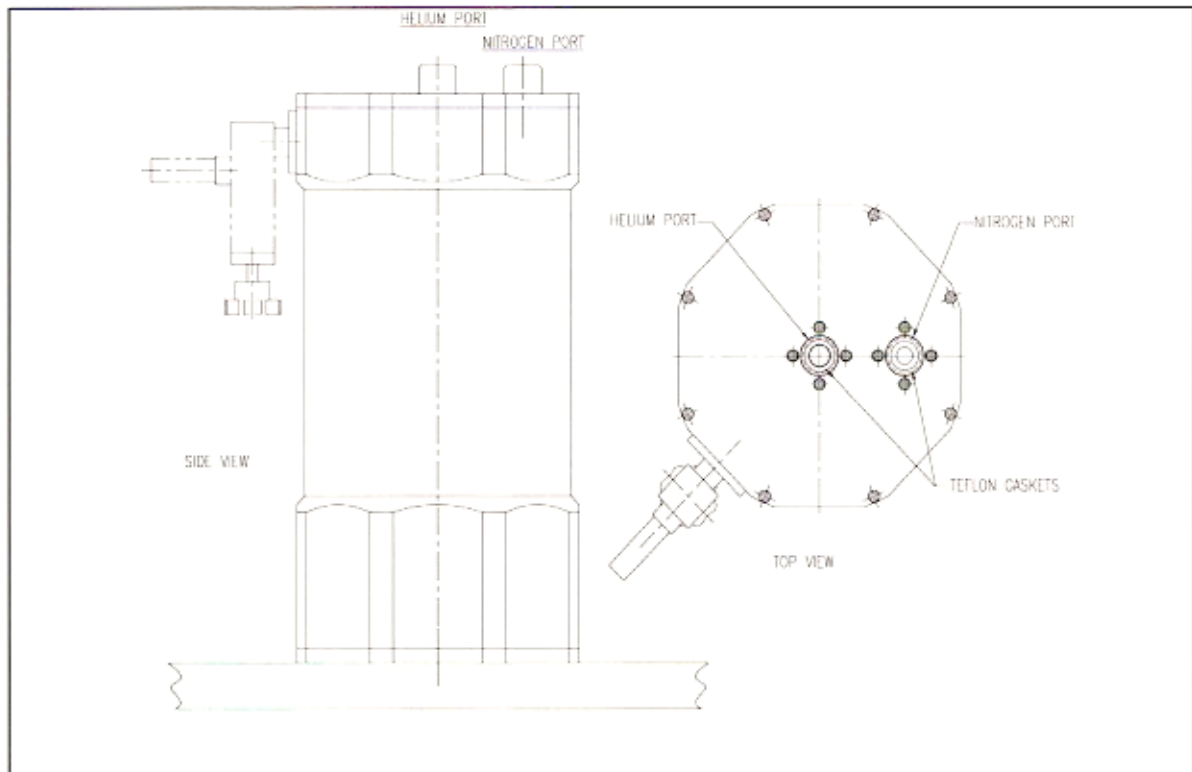

FIGURE 1 – Orientation of Dewar for Filling
- (1) Make sure that all control rods (for filter wheels, heat switches, etc.) are retracted so that unnecessary heat will not be injected into the dewar.
- (2) Place the dewar upright with the fill ports in the upward direction. Make sure that the Teflon gasket is properly seated into the Helium fill port (the inner vessel for Nitrogen dewars), Figure 1.